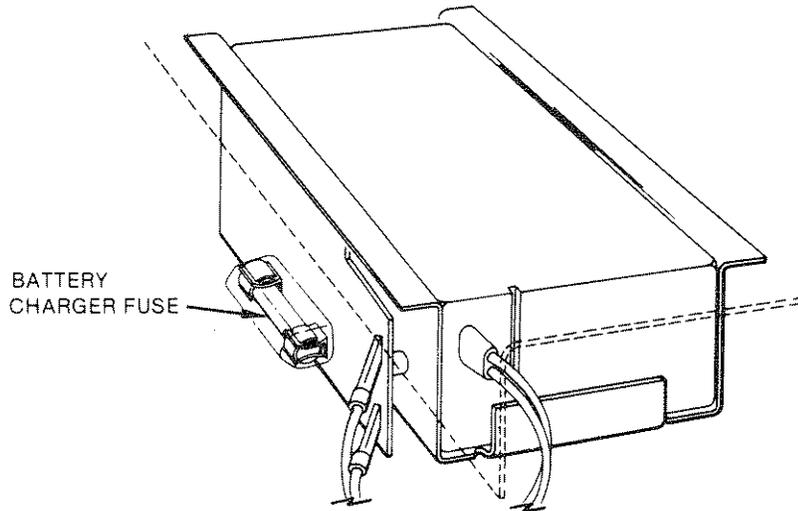

Figure 2-9. Battery Charger Fuse
4. Remove the battery charger fuse cover; see figure 2-9.